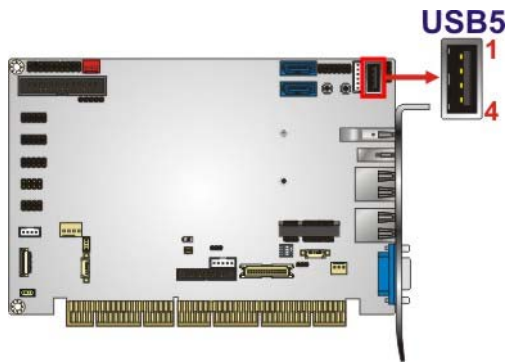

Figure 3-30: USB 2.0 Connector (Type A) Pinout Location
- CN Location:** See **Figure 3-30**